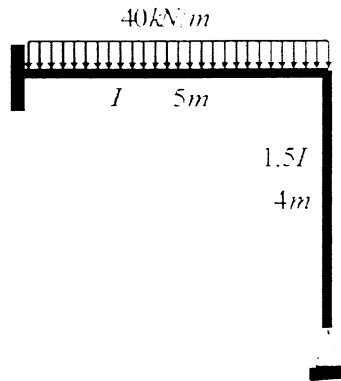

Fig.3
- b) Differentiate between moment distribution method and Kani's method. (7)
- 6 Analyse the 2D frame shown in Fig. 3, using Kani's method. Draw BMD. (15)